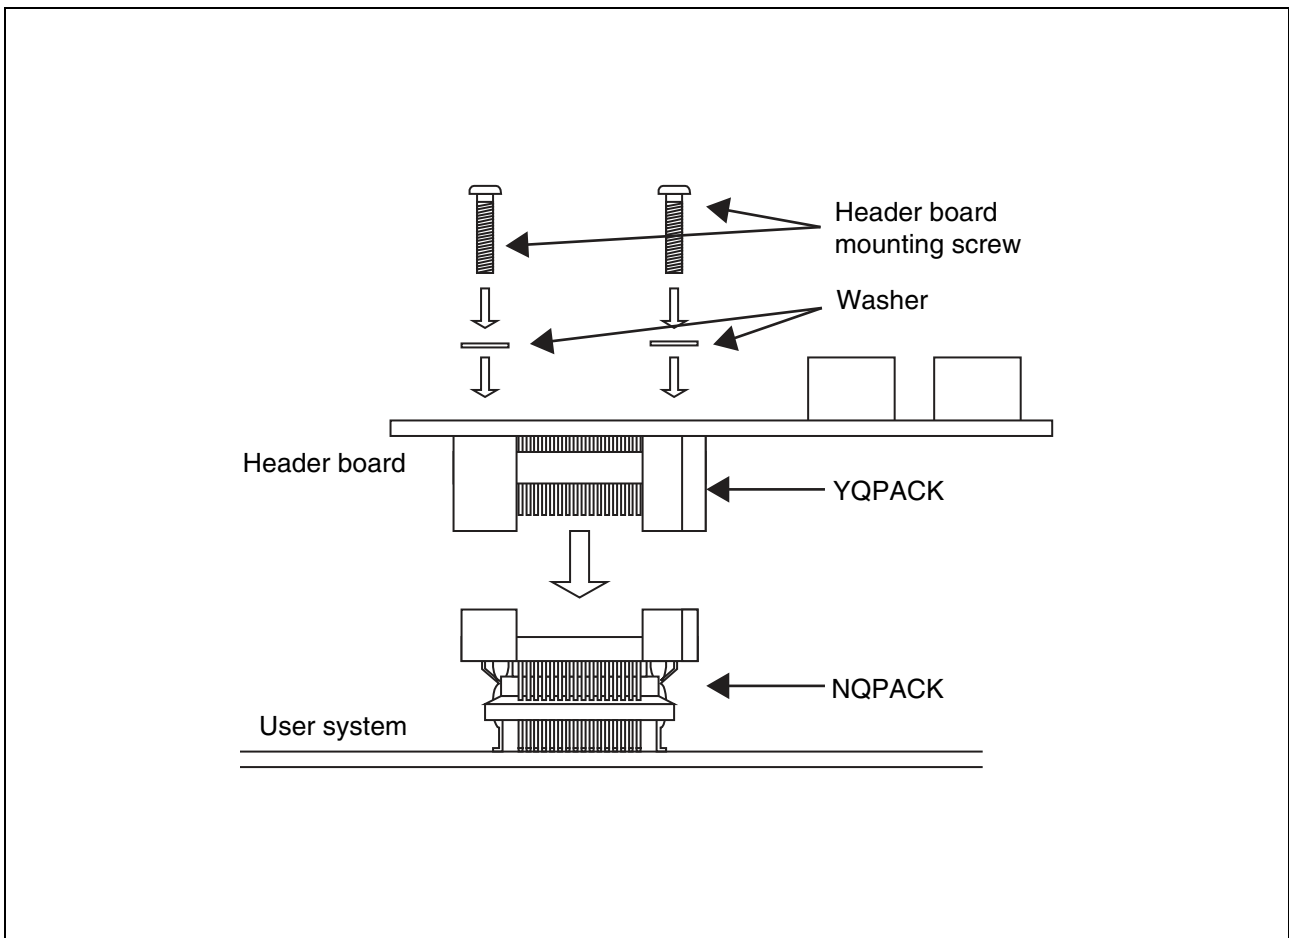

Figure 2 Header board connection
1. To connect the header board to the user system, match the index mark (▲) on the NQPACK mounted on the user system with the index mark (△) on the header board, and then insert it. Next, secure the header board with four screws (see Figure 2).